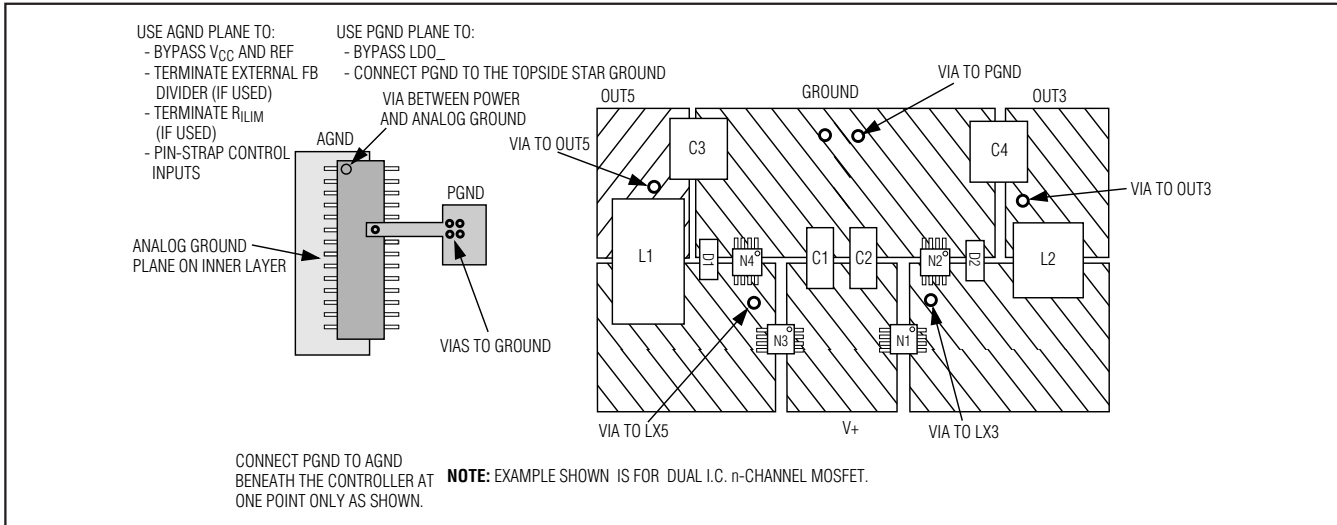

Figure 13. PC Board Layout Example
Careful PC board layout is critical to achieve minimal switching losses and clean, stable operation. This is especially true when multiple converters are on the same PC board where one circuit can affect the other. The switching power stages require particular attention (Figure 13). Refer to the MAX1999 EV kit I.C. data sheet for a specific layout example.
- 4) Make the DC-DC controller ground connections as follows: near the device, create a small analog ground plane. Connect the small analog ground plane to GND (Figure 13) and use the plane for the ground connection for the REF and VCC bypass capacitors, FB dividers, and ILIM resistors (if any). Create another small ground island for PGND, and use the plane for the V+ bypass capacitor, placed